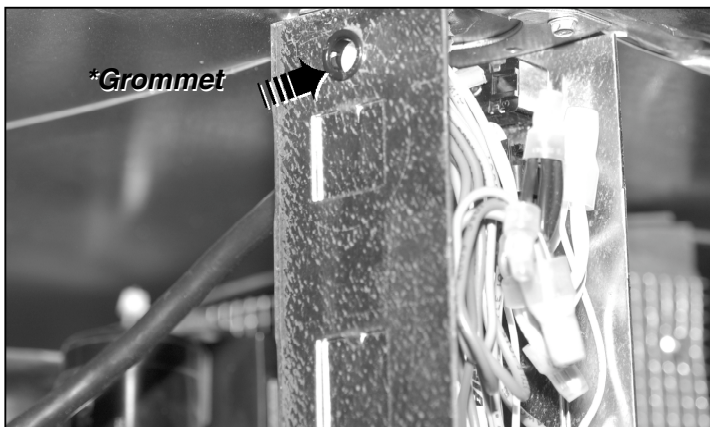

Figure 4. Installing the grommet
B. Install the supplied grommet* into the knockout hole. (See Figure 4).